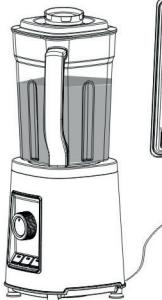

Fig 6
- Turn the function selector (14) to ON and select the required program or optional variable setting. The mixing process starts. Fig 6.